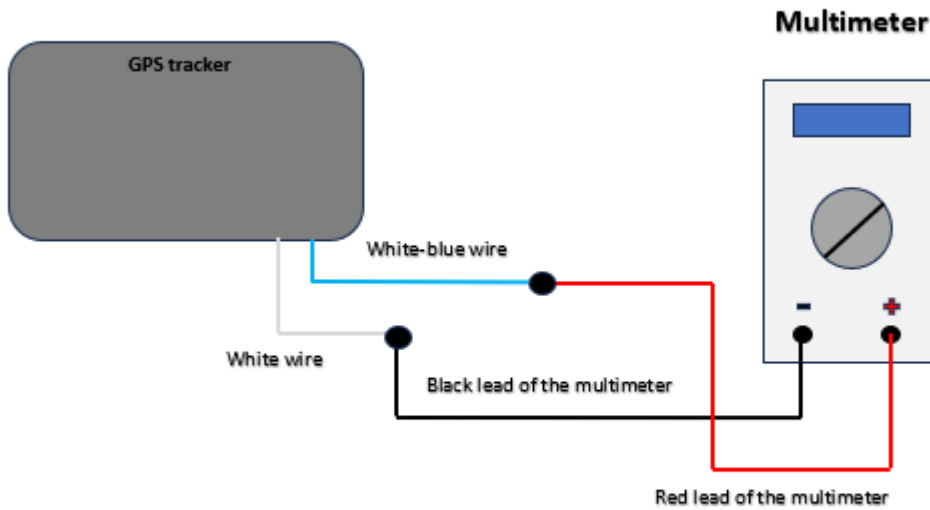

Fig. 5 Connection Diagram
2. Assemble the connection circuit according to "Fig. 5 Connection Diagram."